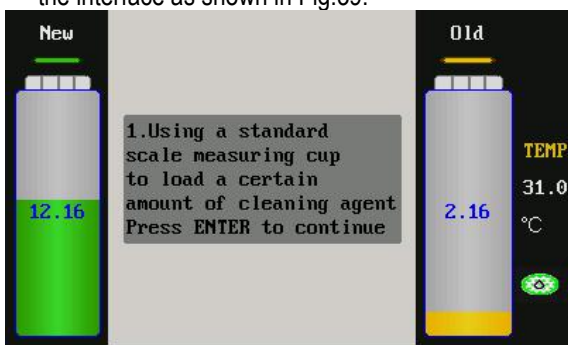

Fig.39
- 11) Select "Cleaning Speed" option in the Main Menu of [Sensor Calibration], and then press OK key to OK the interface as shown in Fig.39.